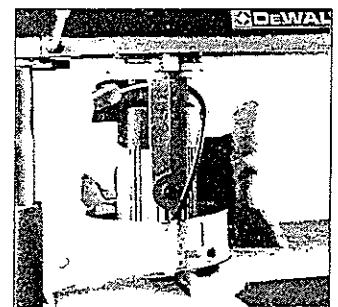

Fig. 39
Adding that professional finish to your work with a clean decorative edge is quick and easy with the optional DeWalt Shaping Head attachment (Fig. 39). It can also be used for cutting round grooves and for drawer, and tongue and groove joints. The range of cutter profiles available is illustrated in the list at the back of this booklet.
- (vi) Before operating the machine you should now mount the special Shaping Head guard and adjust its position depending on the depth of knife profile you intend to use (Fig. 39)
NOTE: Figs. 39, 40 feature the DeWalt Premium Quality Shaping Head which is designed for the more intense, larger profile shaping, rebating applications. There is also available, however, a general-duty shaping head (Fig. 43), which is perfectly satisfactory for slow-feed, fine-finish applications and has a similarly wide range of compatible cutters.